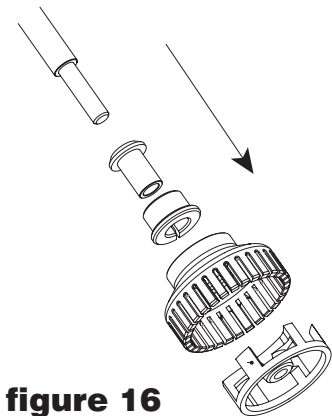

figure 16
- Unscrew the blade completely and slide the blade cover and the two bushings off the impeller shaft (Fig.16)